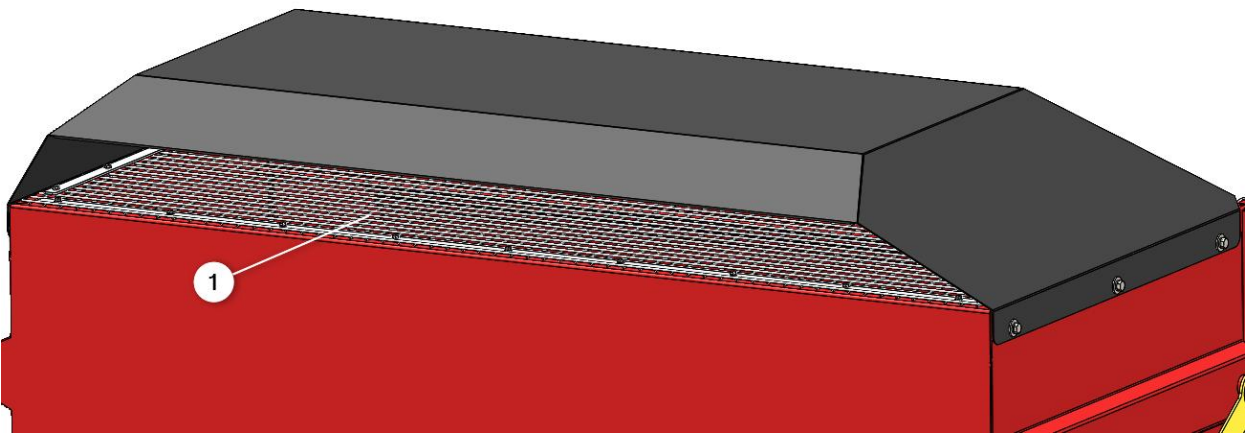

Fig. 16
Pay extra attention to keeping the hopper air discharge opening (1) clean, as this is very important to proper machine functionality (Fig. 16).